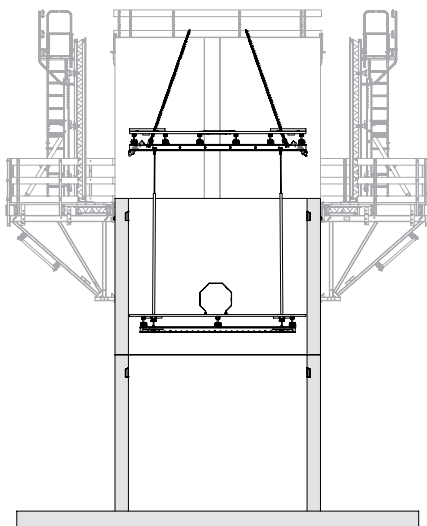

Fig. A4.04
7. Mount access ladder to the finishing platform. (Fig. A4.04)